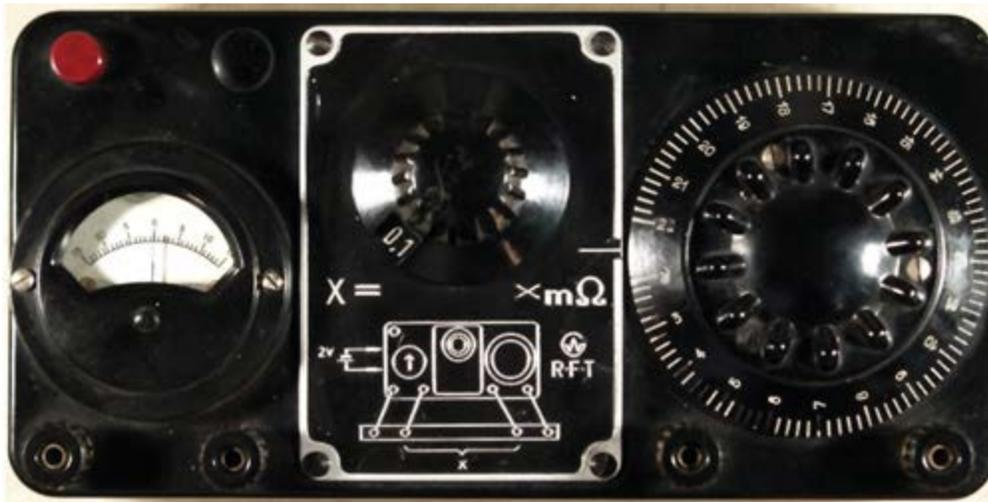
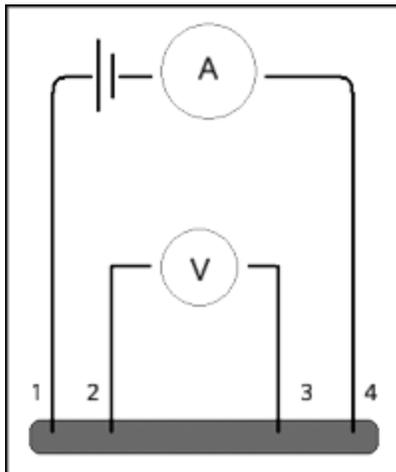

Figure 2. An early Kelvin bridge for making accurate resistance measurements of very low-ohm resistors.
Figure 3. A block diagram showing the Kelvin sensing method.
Early instruments such as the Kelvin bridge (**Figure 2**) are amazingly accurate by today's standards.
Note the block diagram in the center of Figure 2. On the left is a battery and below are four leads. The outer leads supply current through resistor X , while the inner leads isolate the measuring circuit. It is easier to see the Kelvin sensing principle in Figure 3.
By separating the main current path from the measurement path, Kelvin improves measurement accuracy. In Figure 3, the main current to be measured flows from the battery on the top left through the ammeter (A), and the voltage drops across resistor “X” (the gray bar at the bottom) between leads 2 and 3. Virtually no current flows through the voltmeter circuit (V and leads 2 and 3) due to very high-input impedance and, hence, the voltmeter makes a highly accurate measurement. The current is the same at all parts of the main circuit comprised of the ammeter, battery resistor, and leads 1 through 4. However, leads 1 and 4 contribute series resistance that, in turn, contributes to a finite amount of voltage drop along the leads. Although very small voltage drops, nonetheless, they reduce accuracy. By separating the main current path from the measurement path, Kelvin’s sensing improves the accuracy of measurements. Of course, knowing